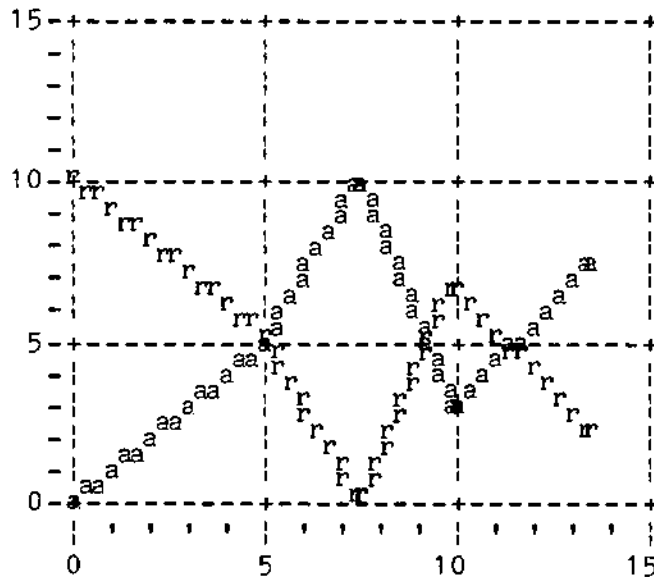

Figure 4-10. ABSOLUTE/RELATIVE VECTOR PLOT EXAMPLE
Following are the step by step procedures used to create the composite ABSOLUTE/-RELATIVE Vector Plot Example shown in Figure 4-10. The reader is encouraged to use the forms shown as Tables 4-4, 4-5 and 4-6 as aids in gaining expertise in HyPLOT application. The HyPLOT Worksheet at the end of this subsection includes blank copies of Tables 4-4 and 4-5. The blank worksheet can be copied and used as an aid when formulating the command sequences required to produce a desired plot, as demonstrated in HyPLOT Example A and HyPLOT Example B.
The graph scale shown in Figure 4-10 is 35 character spaces wide x 12/120" increments per character (10 pitch) = 420/120" increments. It is 18 line spaces high x 8/48" increments per line space (6 lines per inch) = 144/48" increments. The graph scale is located on the page so that the 0/0 scale point ("A") is located at 21 x 12 = 252 increments horizontally (X) and 15 x 8 = 120 increments vertically (+Y) FROM the "x" in the top left corner which defines the 0/0 point or origin on the page. The printer assumes the "x" or 0/0 ORIGIN position upon entering the HyPLOT Mode, and the first vector plotting move must always be in a +Y or DOWNWARD direction and a +X direction RIGHT away from the origin. The printer will not execute negative going commands from the 0/0 page starting position.